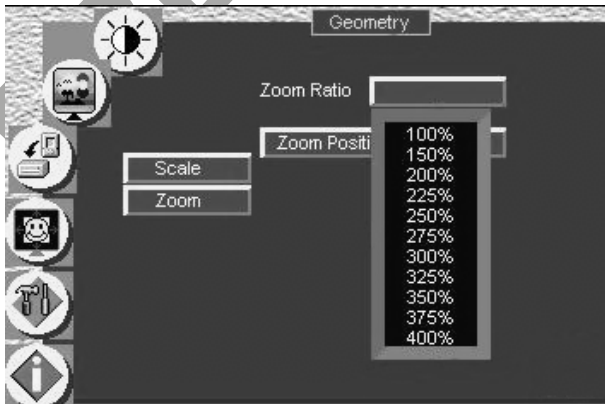

Figure 26: Geometry (Zoom Ratio) Screen
- Using the OSD Menu buttons, as Figure 26 illustrates